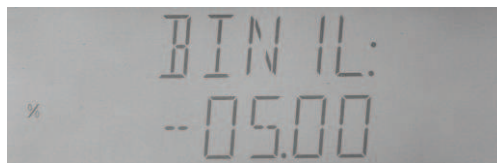

Figure 4-25 Data display at percentage tolerance
- a) Select "SAVE" at file operation page through **◀** or **▶** key, as shown in Figure4-25.